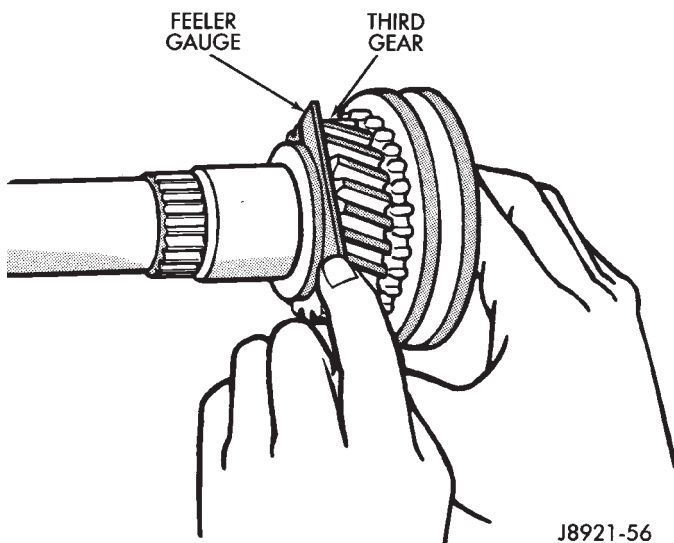

Fig. 110 Check Third Gear Clearance
(9) Install snap-ring to hold 3-4 synchronizer onto output shaft.
(10) Verify third gear thrust clearance with feeler gauge (Fig. 110). Clearance should be 0.10 – 0.25 mm (0.004 – 0.010 in.). If clearance is out of specification, refer to Cleaning and Inspection section within this group.